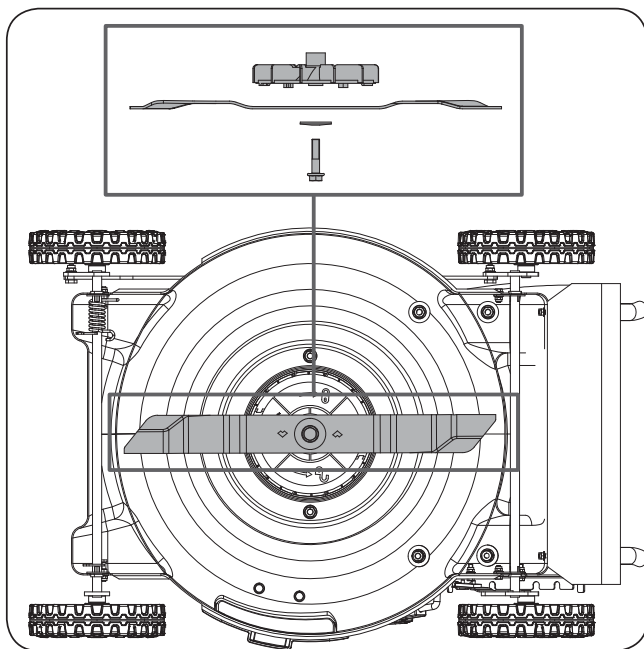

Figure 15
3. Remove the blade, saving all mounting hardware. Examine the blade support and blade bolt to see if there is damage. Examine the motor shaft to make sure that it is not bent. (See **Figure 15**)